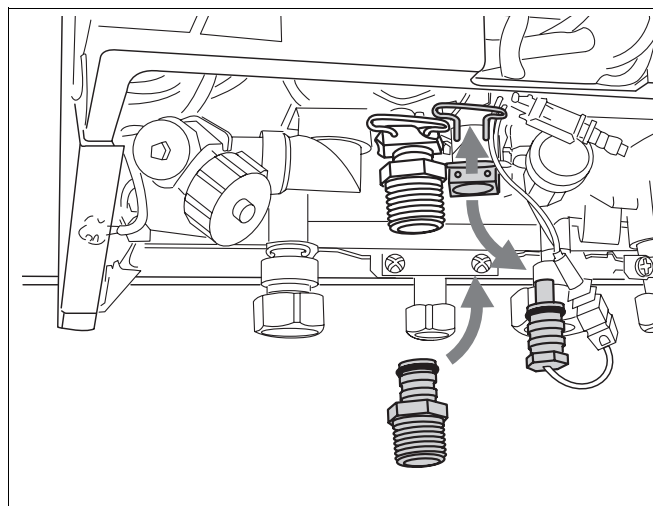

Fig. 52 Flushing out the hot-water heat exchanger
- Remove temperature sensor for DWH warm out and stand-by sensor, and replace with flushing hoses (fig. 52).